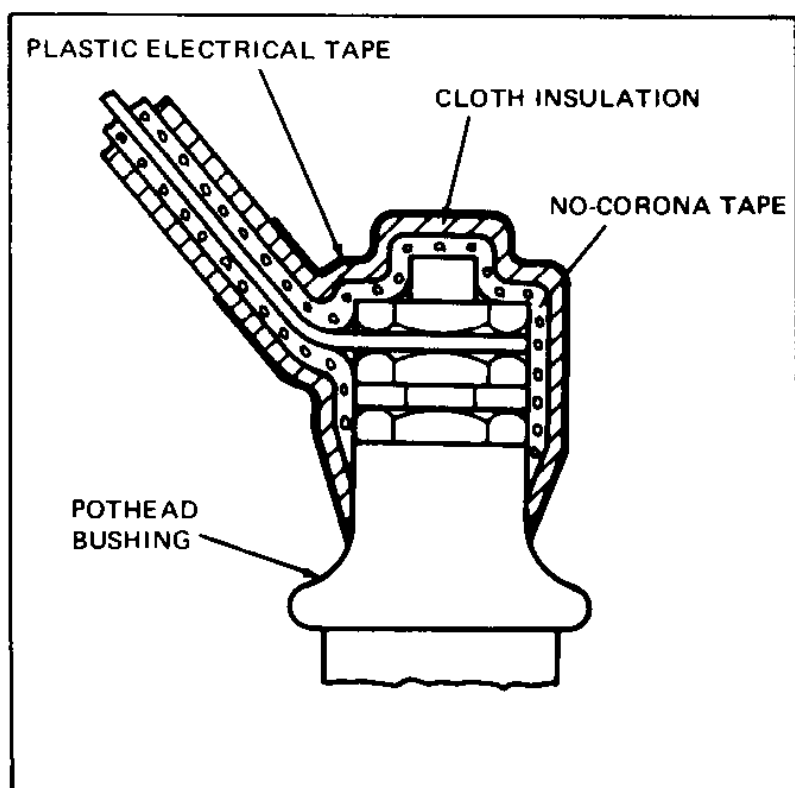

Figure 61. Insulating Pothead Bushing
1. Wrap approximately two feet of no-corona tape over bolt heads to form a smooth surface. See Figure 61.